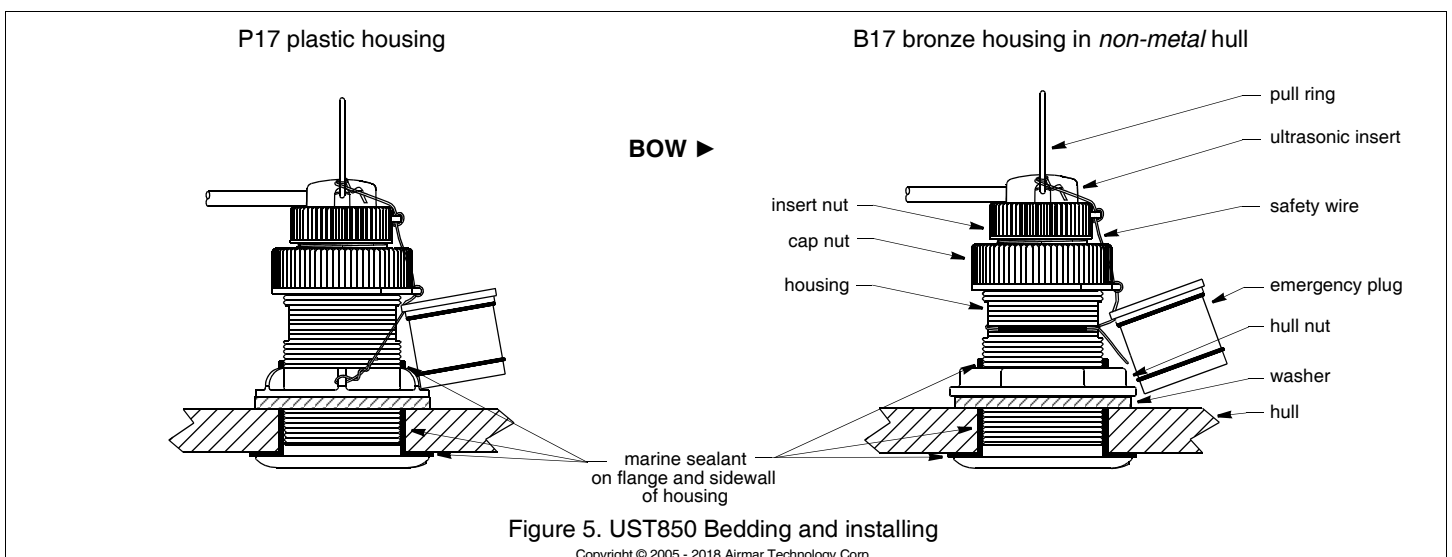

Figure 5. UST850 Bedding and installing
UST850 (Figure 5)
2. Remove the ultrasonic insert from the housing by removing the safety wire from the pull ring and the *insert* nut (Figure 5).
5. Reattach the safety wire to prevent the blanking plug from backing out in the unlikely event that the insert/cap nut fails or is screwed on incorrectly (Figure 5).
1. Remove the *short emergency plug* from the safety wire (Figure 5).
5. Secure the *short emergency plug* with the *cap nut*. **Hand tighten** only. Do not over tighten. Reattach the safety wire (Figure 5).
10. Attach the safety wire to the *short emergency plug*, the *cap* nut, the *insert* nut, and the pull ring to prevent the ultrasonic insert/blanking plug from backing out in the unlikely event that the *insert* nut and/or *cap* nut fails or is screwed on incorrectly (Figure 5).